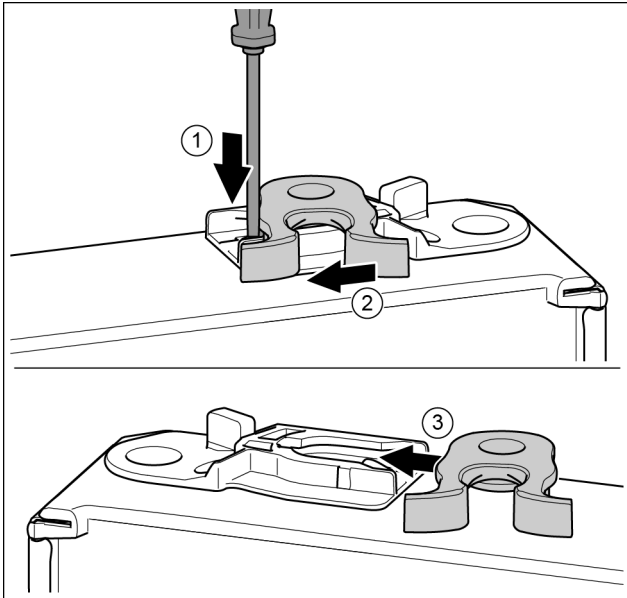

Fig. 18 *
- ▶ Push the tab downwards with a slotted screwdriver. Fig. 18 (1) *
- ▶ Pull the door latch out of the guide. Fig. 18 (2) *
- ▶ Push the door latch into the guide on the other side. Fig. 18 (3) *